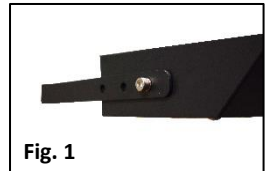

Fig. 1
1. Attach the L-brackets to the light fitting with the 2 x socket bolts, lock washers and washers provided. For the highest outreach, use the outer hole (can be amended after installation) – see Fig. 1.